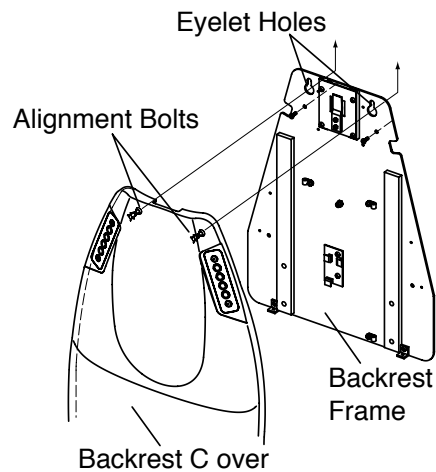

Figure 6a
- a) Insert backrest cover alignment bolts into eyelet holes in backrest frame, as shown in figure 6a.